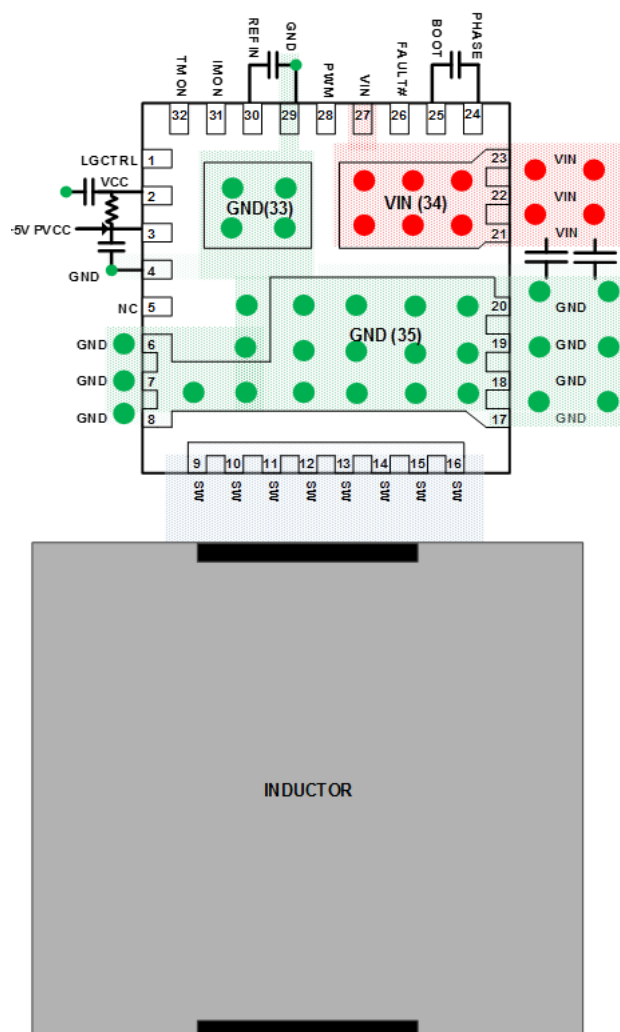
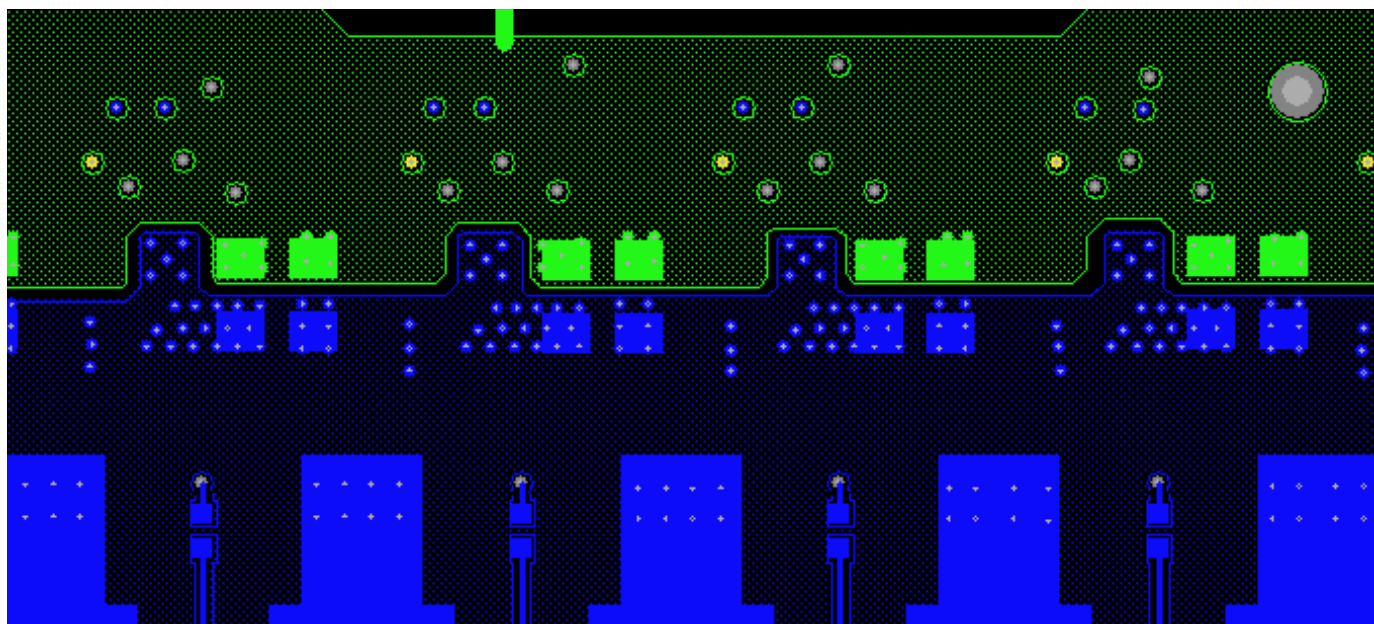

FIGURE 15. SINGLE-PHASE PCB LAYOUT FOR MINIMIZING CURRENT LOOPS
FIGURE 17. MULTIPHASE PCB LAYOUT EXAMPLE BOTTOM LAYER
- Place multiple 10μF or greater ceramic capacitors directly on the device between VIN and GND as indicated in Figure 15 on page 14. This is the most critical decoupling and reduced parasitic inductance in the power switching loop. This will reduce overall electrical stress on the device as well as reduce coupling to other circuits. Best practice is to place the decoupling capacitors on the same PCB side as the device. For a design with tight space requirements, these decoupling capacitors can be placed under the device, i.e., bottom layer, as shown in Figure 17 on page 15.
- Place PVCC, VCC and BOOT-PHASE decoupling capacitors at the IC pins as shown in Figure 15 on page 14.
- The IMON and IREF network and their vias should not sit on the top of the VIN plane, a keep out area is recommended, as shown in Figure 17 on page 15.